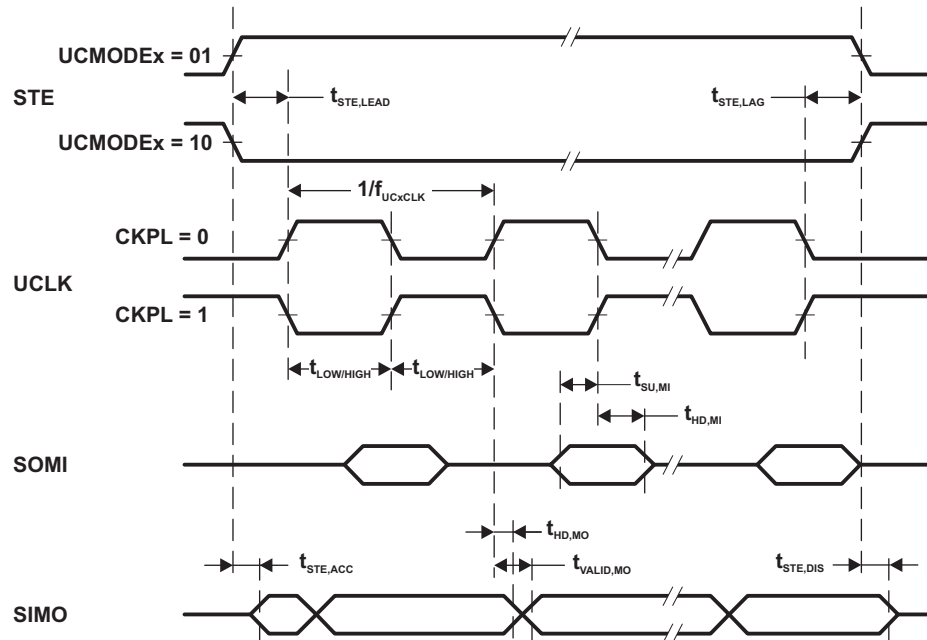
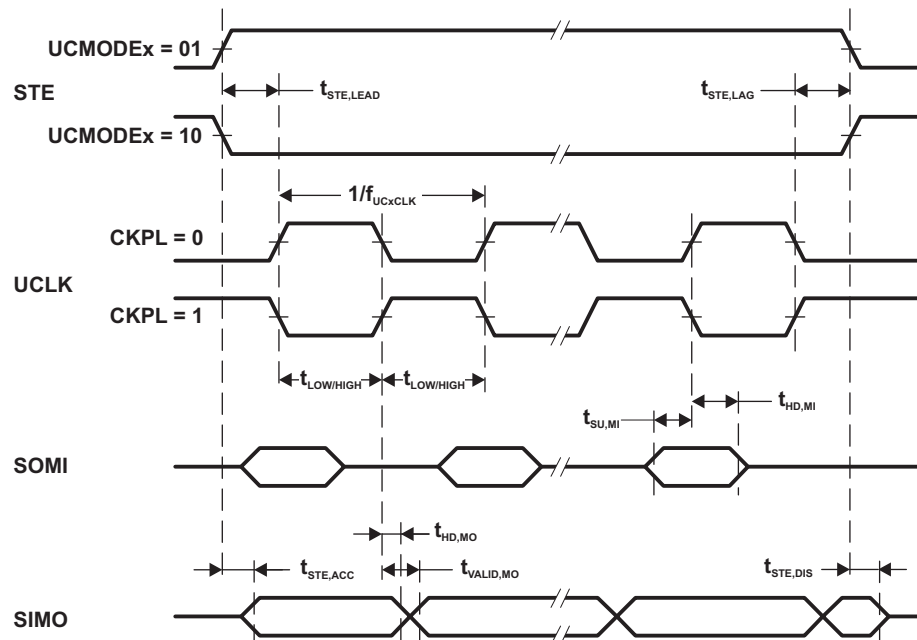

Figure 5-15. SPI Master Mode, CKPH = 0
Figure 5-16. SPI Master Mode, CKPH = 1
- (2) Specifies the time to drive the next valid data to the SIMO output after the output changing UCLK clock edge. Refer to the timing diagrams in Figure 5-15 and Figure 5-16.
- (3) Specifies how long data on the SIMO output is valid after the output changing UCLK clock edge. Negative values indicate that the data on the SIMO output can become invalid before the output changing clock edge observed on UCLK. Refer to the timing diagrams in Figure 5-15 and Figure 5-16.